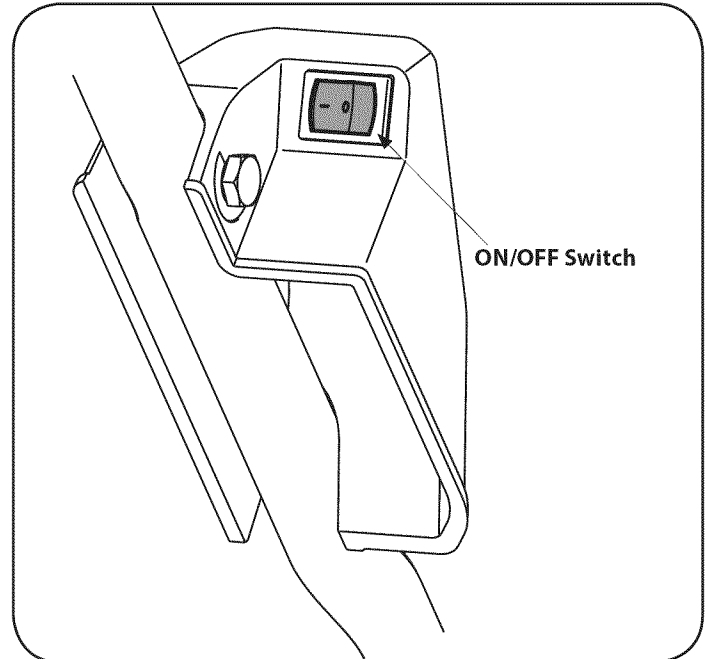

Figure 9
1. Push and hold the ON/OFF switch until the mower engine stops. See Figure 9.